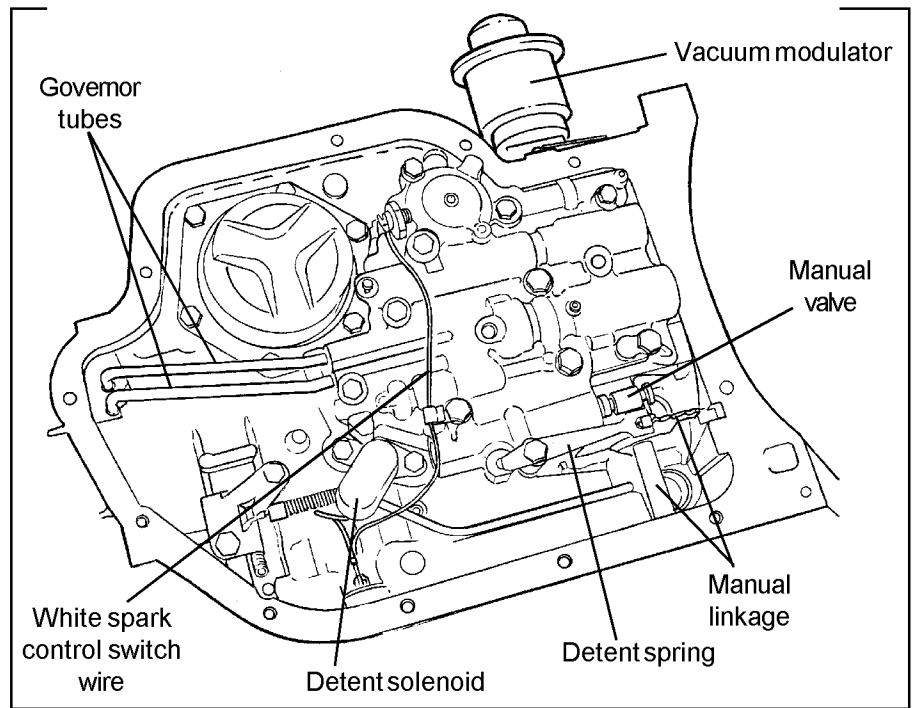

Figure 4
**STEP 3.** Observe the location of the following (See Fig. 4) Manual linkage, detent spring with roller and the way linkage engages the manual valve in the valve body, governor tubes and their outing, detent solenoid and its wire onnector, white spark control switch wire and routing of the wire.
**STEP 4.** There are (3) 1/4-20 and (8) 5/16-18 bolts holding the valve body. remove all but one valve body bolt and
**STEP 14.** Install all the valve body bolts **FINGER TIGHT**. Make sure the detent spring is in position and riding on the internal shift lever (**See fig. 4**). Make sure the manual valve is engaged with the pin on the internal shift lever. Tighten all valve body and solenoid bolts to 8-10 lb.ft. (11-13.6 Nm). Route the white spark control wire and connect to pressure switch on valve body. Check operation of manual valve by running range selector through all gear positions.